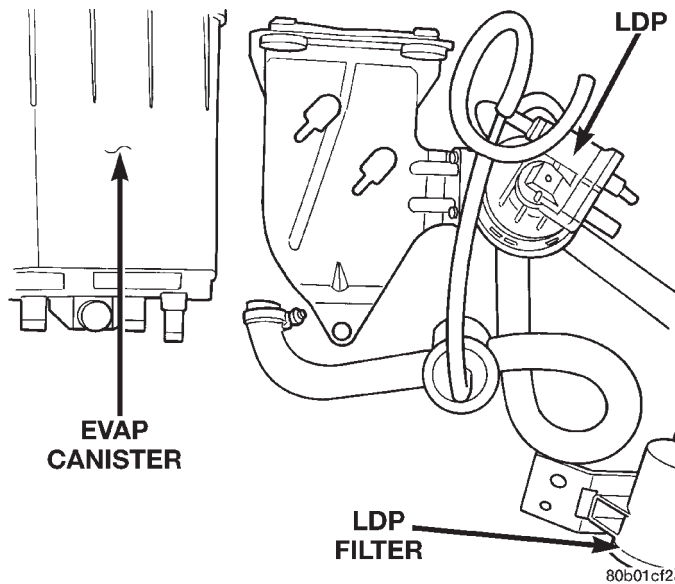

Fig. 15 LDP and EVAP Canister
- (10) Remove hoses from EVAP canister.
- (11) Disconnect electrical connector for Leak Detection Pump (LDP).
- (12) Remove push pin from bracket for EVAP canister (Fig. 15).